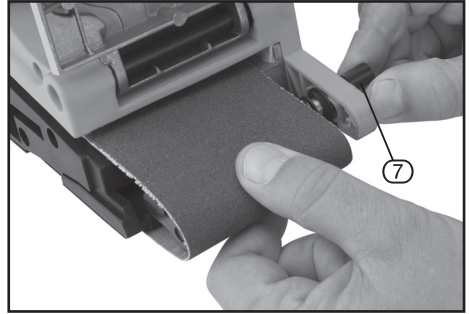

FIG.4
8.3 SANDING BELT TRACKING AND ADJUSTMENT – FIG. 4
- The new belt will have a tendency to track more to one side. To centre the belt on the rollers and over the sanding base, rotate belt tracking control knob (7). This pivots the front roller slightly causing the belt to track across the roller. Only slight adjustments are needed.